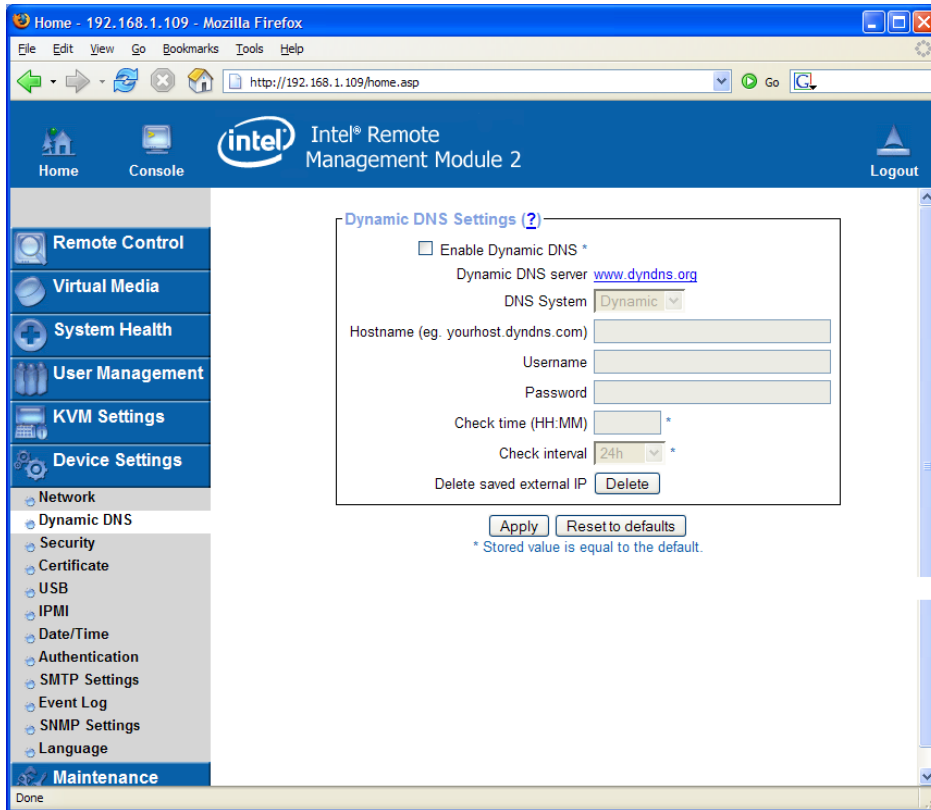

Figure 62: Dynamic DNS Menu
2. Enter the Dynamic DNS Settings configuration dialog as shown in Figure 62.